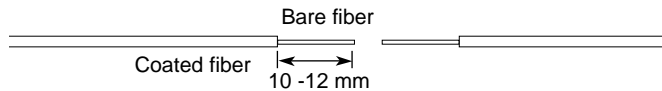

Figure 31
5.5 Strip and clean the fibers using Fiber-Clean solution or alcohol. Cleave the fibers with the A8 cleaver, leaving 10 mm of bare fiber (Figure 31).